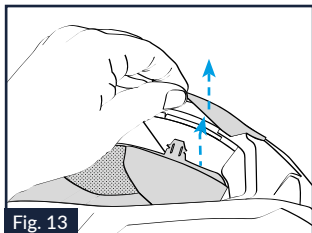

Fig. 13
9.2. Slip the left front flap of the liner into its seat by slightly deforming the upper shell sealing edge (Fig. 13). Repeat the same steps for the central front and right front flaps.